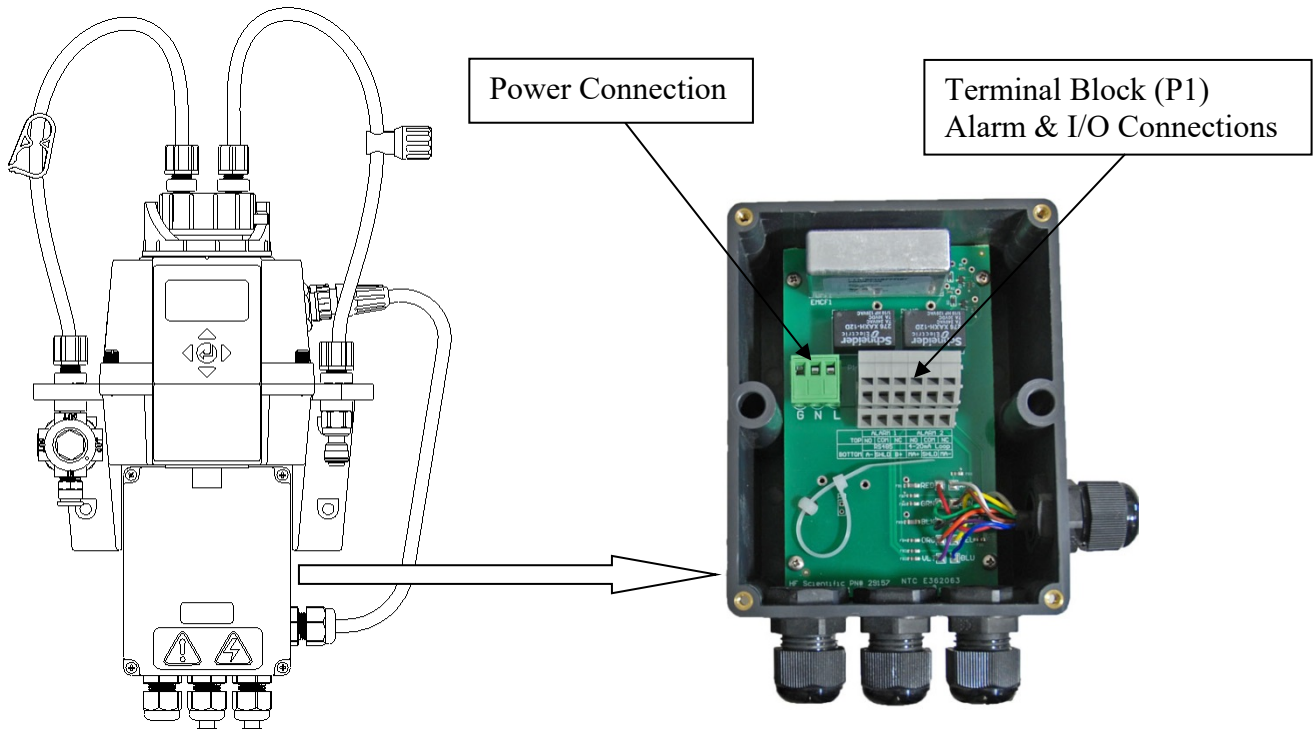

Figure 5: Electrical Connections for the MTOL+
- While making connections, refer to **Figure 5**. **The MTOL+ is not supplied with a power cord.**
- All of the electrical connections to the instrument are made through the MTOL+ Junction Box (see **Figure 5**), which should be located directly under the sensor portion of the instrument.
- The connections are labeled within the terminal box and are self-descriptive (see **Figure 5**).
- d. All of the electrical connections to the instrument are made through the MTOL+ Junction Box (see Figure 5), which should be located directly under the upper portion of the instrument.
- e. Carefully open the MTOL+ Junction Box (see Figure 5) by removing the four cover screws.
- f. With the Junction Box cover removed, the connections are visible as shown in Figure 5.
- i. The connections are labeled within the terminal box and are self-descriptive (see Figure 5).